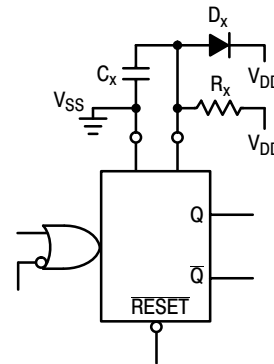

Figure 11. Use of a Diode to Limit Power Down Current Surge
7. If $C_X > 15 \text{ }\mu\text{F}$, use discharge protection diode per Fig. 11.
When a more rapid decrease of V_{DD} to zero volts occurs, the XD14538 can sustain damage. To avoid this possibility use an external clamping diode, D_X , connected as shown in Fig. 11.